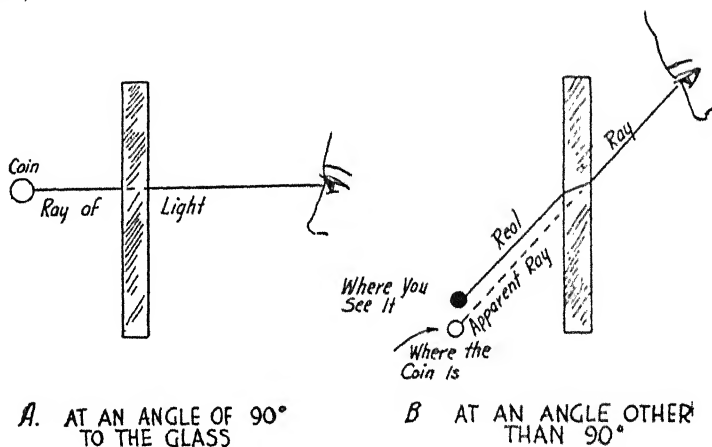

FIG. 9.—HOW A SHEET OF GLASS REFRACTS LIGHT
A simple experiment to illustrate the refraction of light is (1) to look through a sheet of glass at a coin so that the rays that are reflected from the latter will pass through it to your eye at right angles to the surface of the glass as shown at *A* in *Fig. 9*.